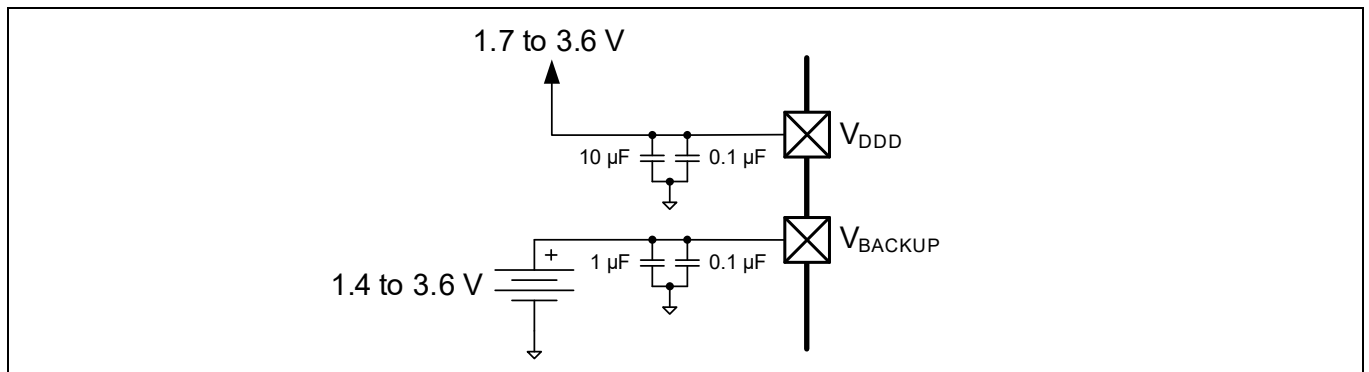

Figure 14 Separate battery connection to V_{BACKUP}
- V_{BACKUP} : the supply for the backup domain, which includes the 32-kHz WCO and the RTC. It can be a separate supply as low as 1.4 V, for battery or supercapacitor backup, as Figure 14 shows. Otherwise it is connected to V_{DDD} . It powers I/O port 0.